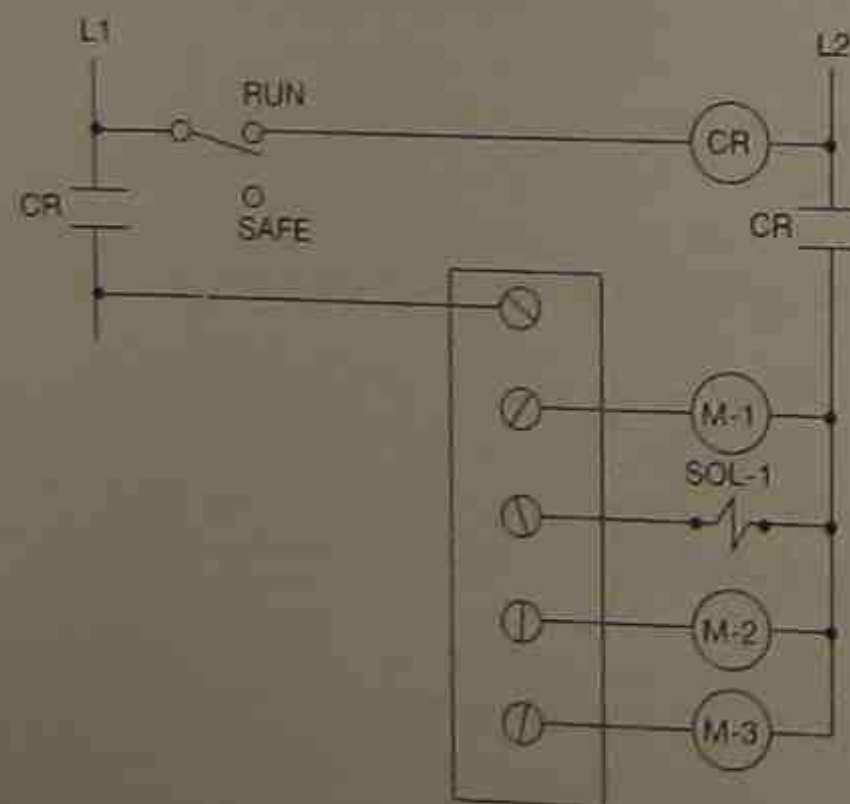

Figure 11-7 Safety Circuit
Figure 11-7 shows how a control relay (CR) and *safe-run switch* is added to interrupt line 2 to the discrete output devices of an automatic machine or process.